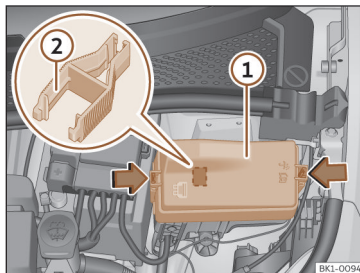

Fig. 153 In the front compartment: fuse box cover.
- Press the locking tabs to release the fuse box cover **>>> Fig. 153** .